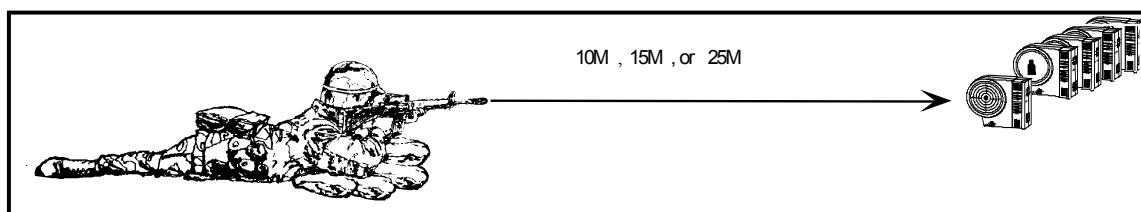

Figure C-2. Exercise 2.
- Step 1.** The soldier assumes a proper firing position (uses sandbags for supported position) (Figure C-2).